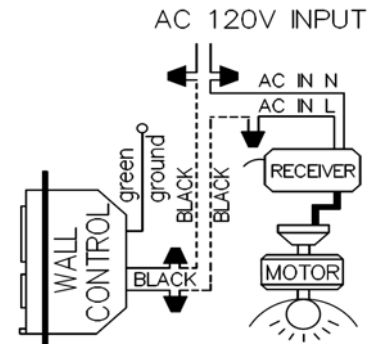

FIG.2
1.Remove wall plate, disconnect and remove the toggle switch from wall junction box. Using the wire nuts provided, make the electrical connections to the new Transmitter unit as shown in figure 2.